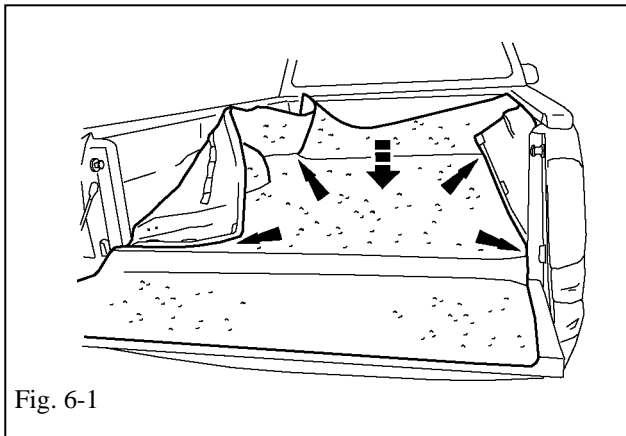

Fig. 6-1
- (b) Position the BedRug - front to rear and left to right by aligning all edges and tucking corners into place. (Fig 6-1)